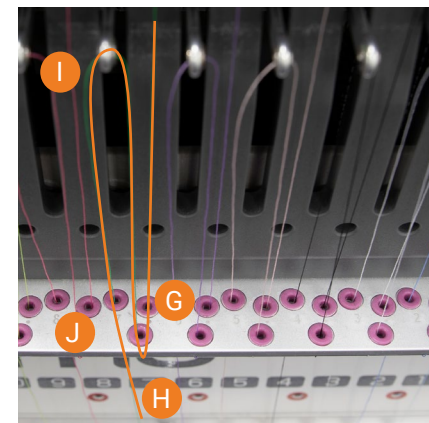

Figure 24
13. Now, pass the thread through the opening of the lever arm from the right to the left. **See point I in Figure 24.**
14. Then pass the thread back down until it runs through the pink eyelet. See point J in Figure 24. Continue running the thread down the same path until it passes through the following ceramic eyelet. **See point K in Figure 25 A.**